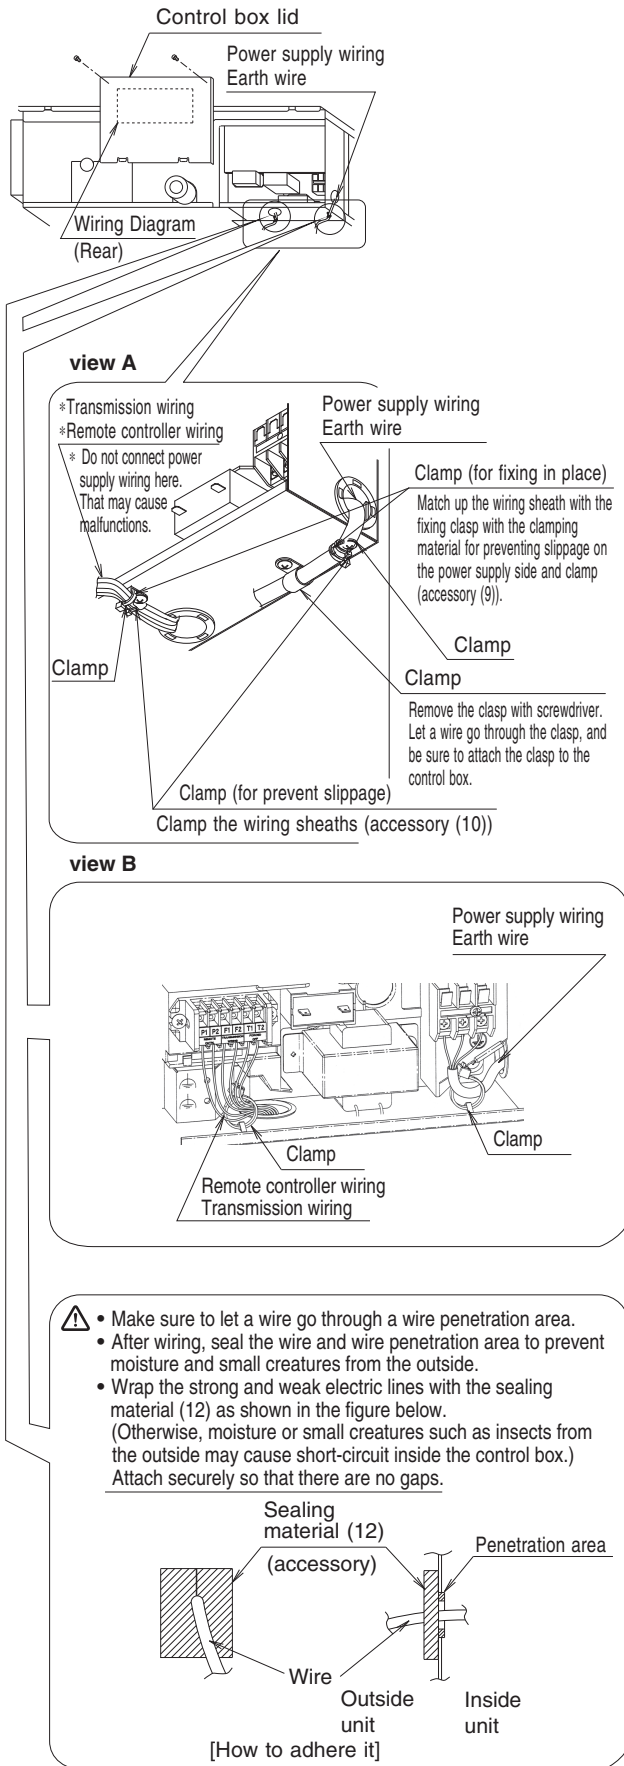

Fig. 17
Securely clamp the cables with the clamps (9)(10) offered as accessories as shown in Fig. 17 so that tension will not be applied on the cable connection areas.
- Wire only after removing the control box lid as shown in Fig. 17, referring to view A or B depending on the type of unit.
- When clamping the wiring, use the included clamp material (9) and (10) as shown in the Fig.17 to prevent outside pressure being exerted on the wiring connections and clamp firmly.